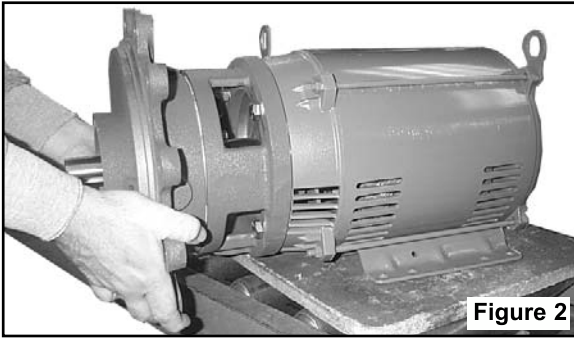

Figure 2
9. Remove bolts holding cover to pump adapter. Pry cover from pump adapter. This process will remove mechanical seal head and shaft sleeve from motor shaft. Use caution when removing cover to eliminate the possibility of marring shaft sleeve. See Figure 2.
10. Remove (4) bolts that hold seal plate to cover. Place seal plate on flat surface and push out stationary part of mechanical seal.